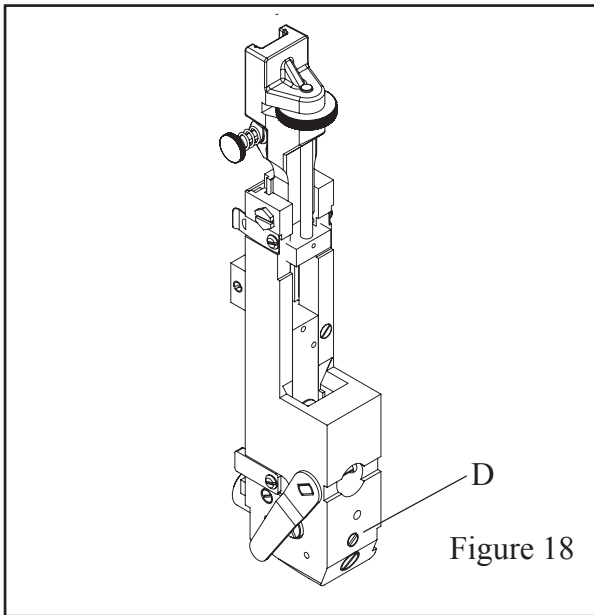

Figure 18
C. Head/Clincher Alignment (Figure 18, 19)
1. To adjust for front-to-rear alignment: (Fig. 18)